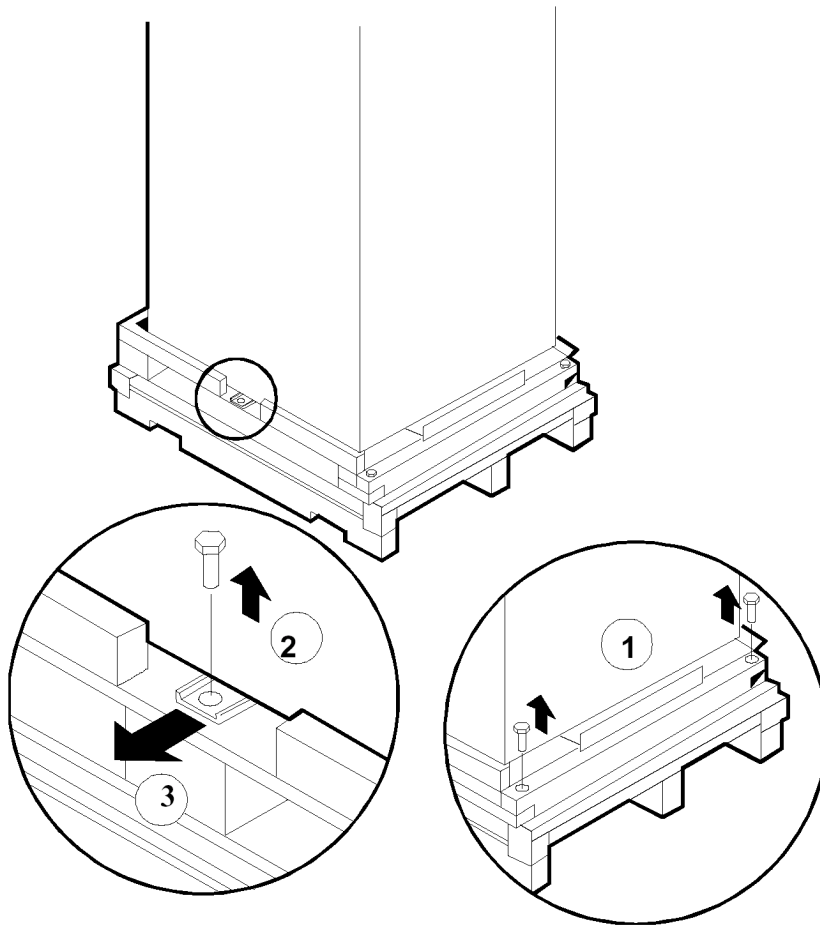

Figure 4-2. Unclamping
6. Remove the two bolts (1) holding the anti-roll block in place at the bottom-rear (see Figures 4-2). Remove the block.